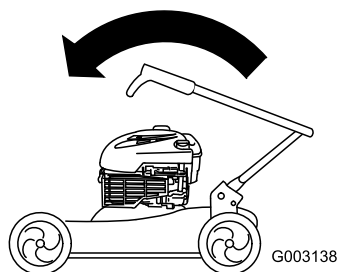

Figure 32
2. Fold the upper handle forward as shown in Figure 32.